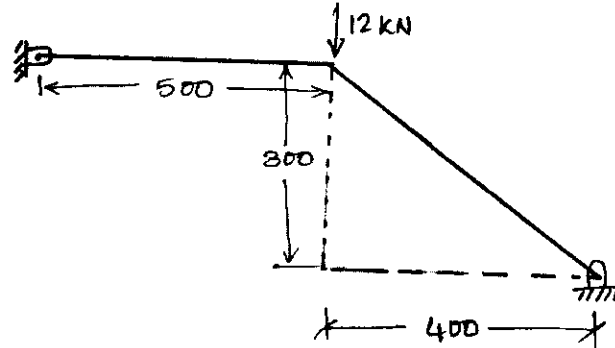

Fig. Q6 (b)
b. Find the nodal displacement, stress and reaction of truss element shown in Fig. Q6 (b). Take  $E = 70 \text{ GPa}$ ,  $\text{Area} = 200 \text{ mm}^2$ . (12 Marks)